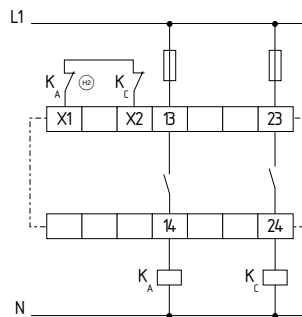

Fig. 48
**Single-channel control with feedback circuit (Fig. 48)**